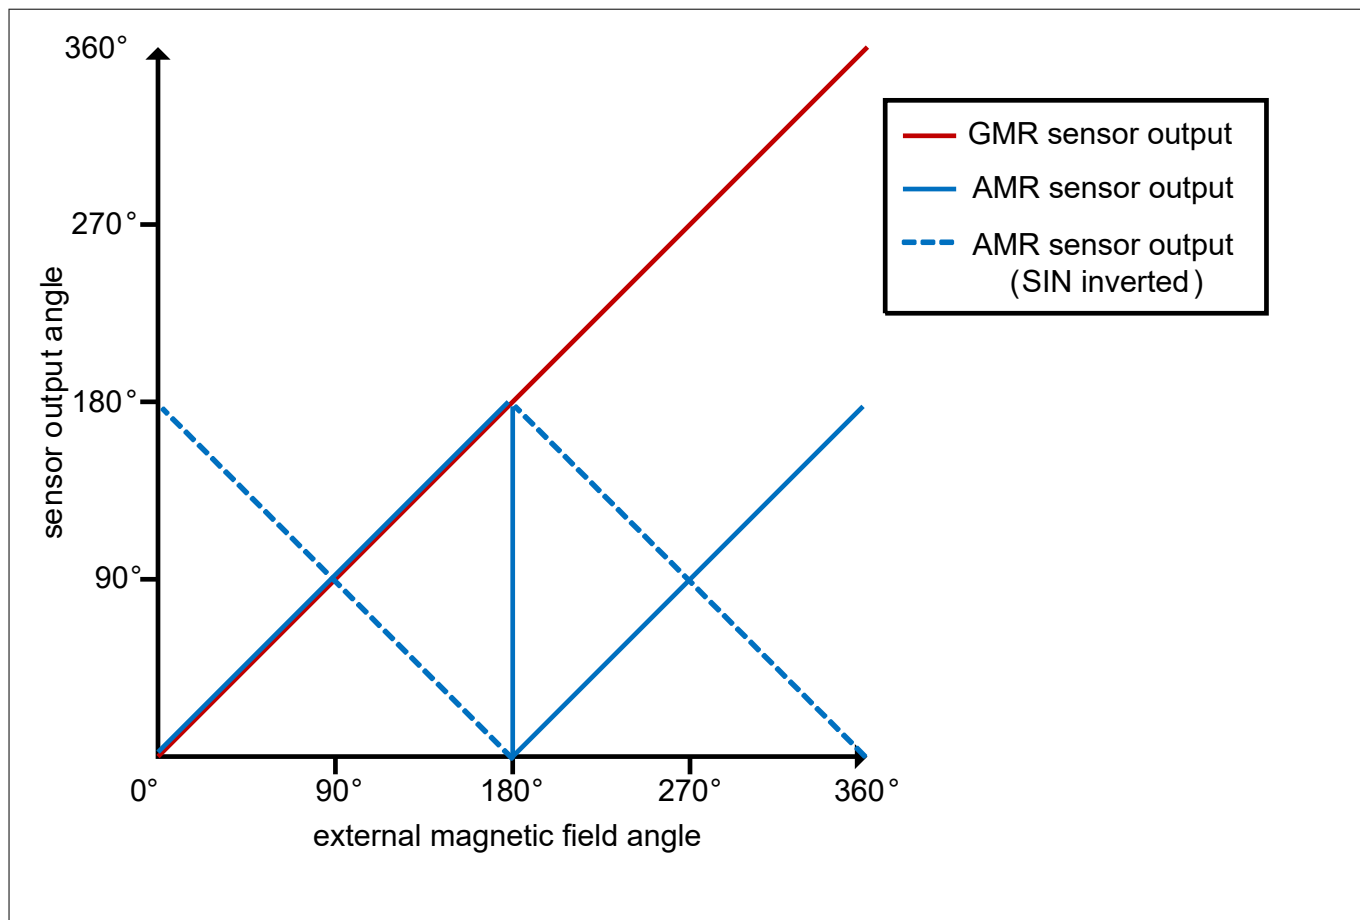

Figure 9 TLE5309D Dual die angle output
The bottom sensor element of the TLE5309D is an AMR sensor, the signal of which is only unambiguous over 180°. Therefore, in the angle range of 180° to 360° of the GMR sensor, the AMR sensor output signal will be in a range of 0° to 180° again. This behavior is illustrated in Figure 9, which shows the angle calculated according to (1) and (2) from the output of the GMR and AMR sensors, respectively, for a given external magnetic field orientation.
If in an application a different output of the two sensors is desired, the connections to the SIN_N and SIN_P or COS_N and COS_P pins on the printed circuit board can be interchanged. The consequence of this change of connections is that either the differential sine or the cosine signal are inverted, which corresponds to a change of rotation direction (see dashed line in Figure 9).